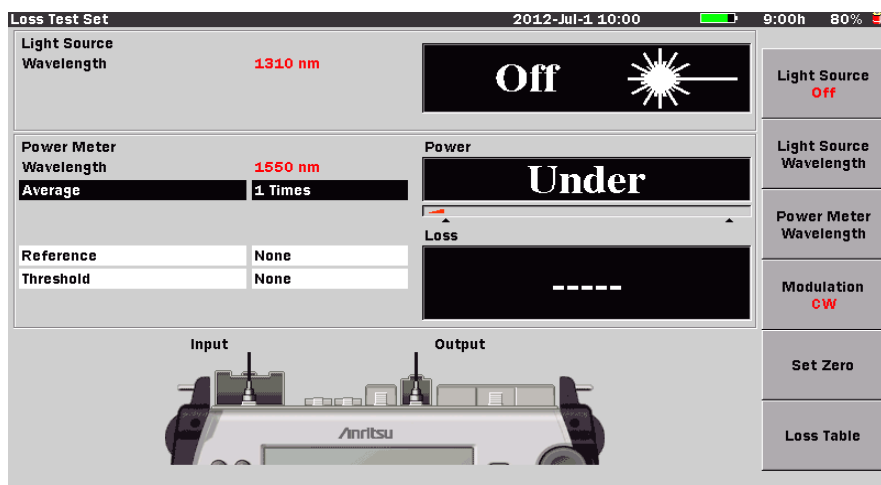

Figure 8-1: Initial Loss Test Set screen
3. The unit displays the initial Loss Test Set screen (see Figure 8-1).
1. Start Loss Test Set mode. The initial Loss Test Set screen appears (see Figure 8-1 on page 8-1).